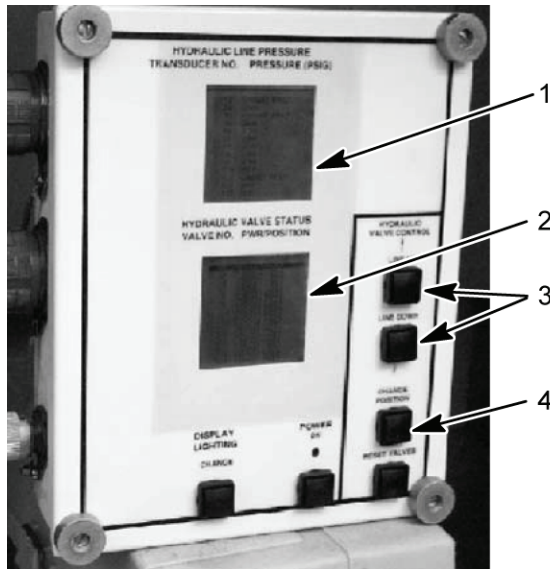

Figure 7. HDC Control Box
- Disable ejector by manually closing the ejector inhibit ball valve V23 (Figure 8, item 1) on the DCV bank. Using LINE UP or LINE DOWN button (Figure 7, item 3), select V1 on the HDC display (Figure 7, item 2). Close V1 on the HDC display (Figure 7, item 2) by selecting the CHANGE POSITION button (Figure 7, item 4) on the HDC control box.
- To test 13R circuit: With SPRUNG/UNSPRUNG control valve in SPRUNG mode, actuate left SUSPENSION CONTROL valve to RAISE position. Read transducer T-3 hydraulic pressure on the HDC display (Figure 7, item 1).
- To test 13L circuit: With SPRUNG/UNSPRUNG control valve in SPRUNG mode, actuate right SUSPENSION CONTROL valve to RAISE position. Read transducer T-4 hydraulic pressure on the HDC display (Figure 7, item 1).